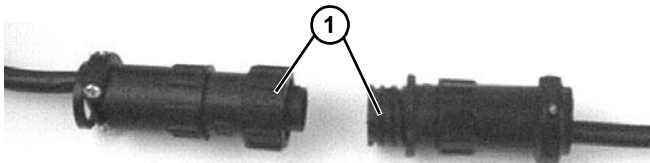

Figure 22
1. For DC variable speed motor, unplug motor cord at disconnect (**Figure 22, item 1**).